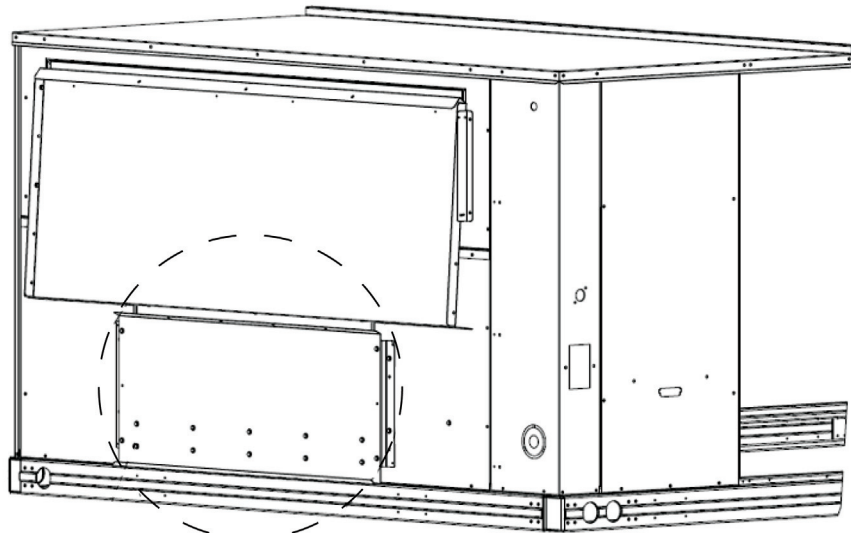

Fig. 31 — Shipping Location, Vertical Units
1. Remove the hood top panel from its shipping position on the unit end. (See Fig. 31.)